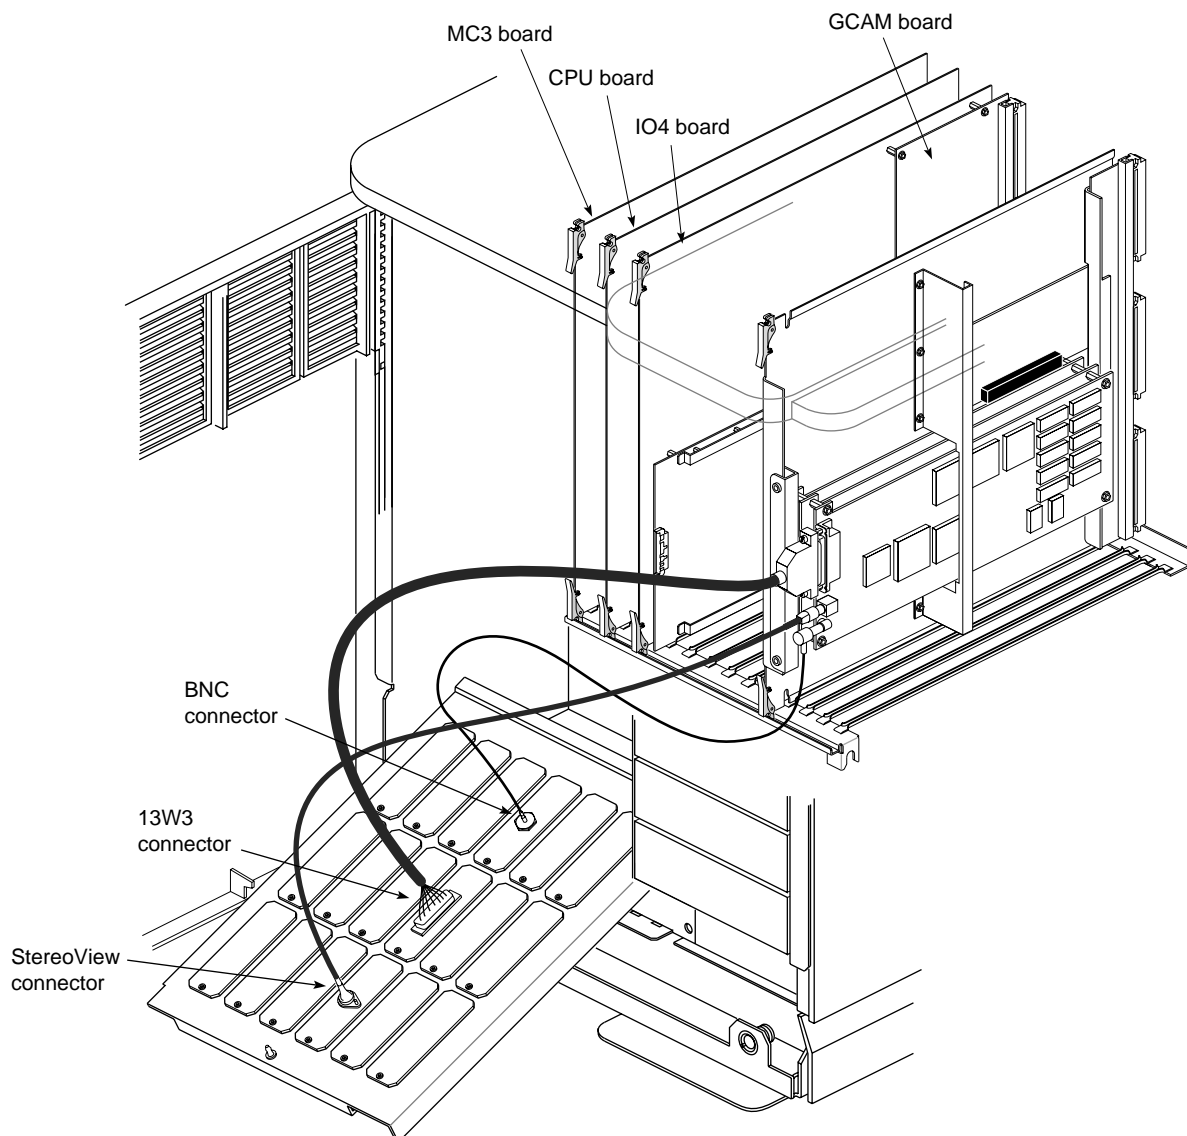

Figure 4-2 Extreme Graphics Option Installed in Onyx Deskside
3. Remove the GCAM-equipped IO4 board from slot 3 of the cardcage (see Figure 4-2). Transfer any installed mezzanine daughter board to the new VCAM-equipped IO4 at this time.